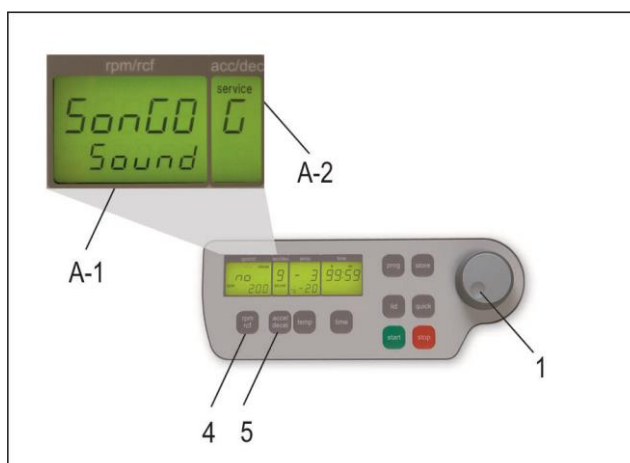

Figure 7
Proceed as illustrated, under point 1.8.1, to enter this program mode, press the key, "accel/decel" (5). In the display, "accel/decel" (A-2) flashes the word, "service". Select the letter, "G" with the adjustable knob (1). As a result, appearing in the display, "rpm/rcf" (A-1) the word, " SonGo/Sound". After pressing the key "rpm/rcf" (4), select a song with the adjusting knob (1), (see Figure 7).